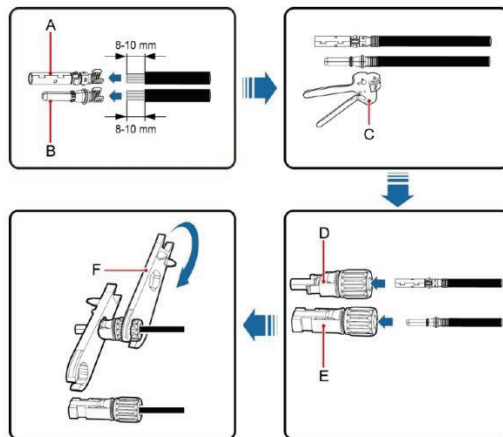

Fig 5.3 Connection between MC4 DC connector and PV string
(2) After the DC connector is connected, use a multi-meter to measure the voltage of the DC input string, verify the polarity of the DC input cable, and ensure that the voltage of each string is within the allowable range of the inverter, as shown in Fig 5.3.